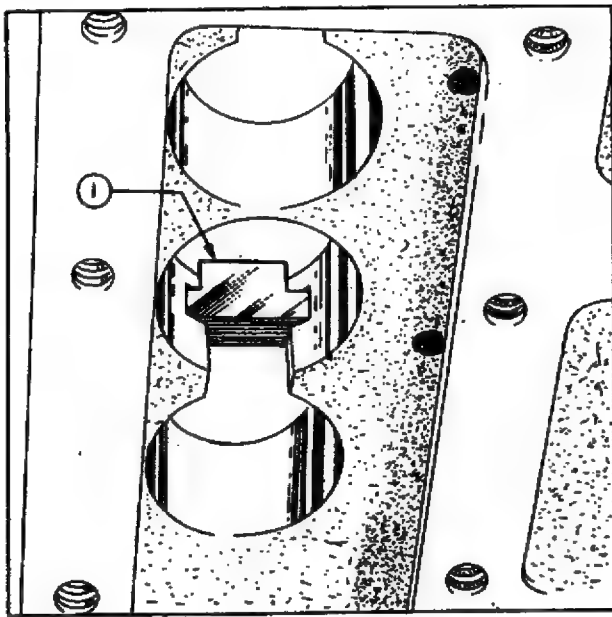

Fig. 30
24. Fit the steel "T" pieces to their locations in the housing (see Fig. 30), then replace the tappet assemblies, ensuring that they are fully located and not lodged on the "T" pieces.